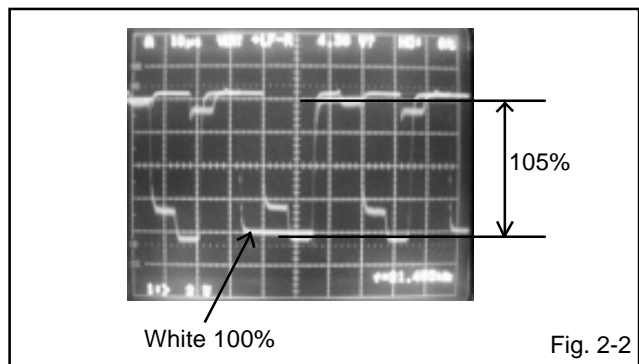

Fig. 2-2
7. Press the VOL. UP/DOWN button on the remote control until the red color level is adjusted to  $105 \pm 10\%$  of the white level. **(Refer to Fig. 2-2)**
9. Press the AV mode. Then perform the above adjustments 2~6. **(Refer to Fig. 2-2)**
11. Press the TV/VIDEO button on the remote control to set to the YUV mode. Then perform the above adjustments 2~6. **(Refer to Fig. 2-2)**